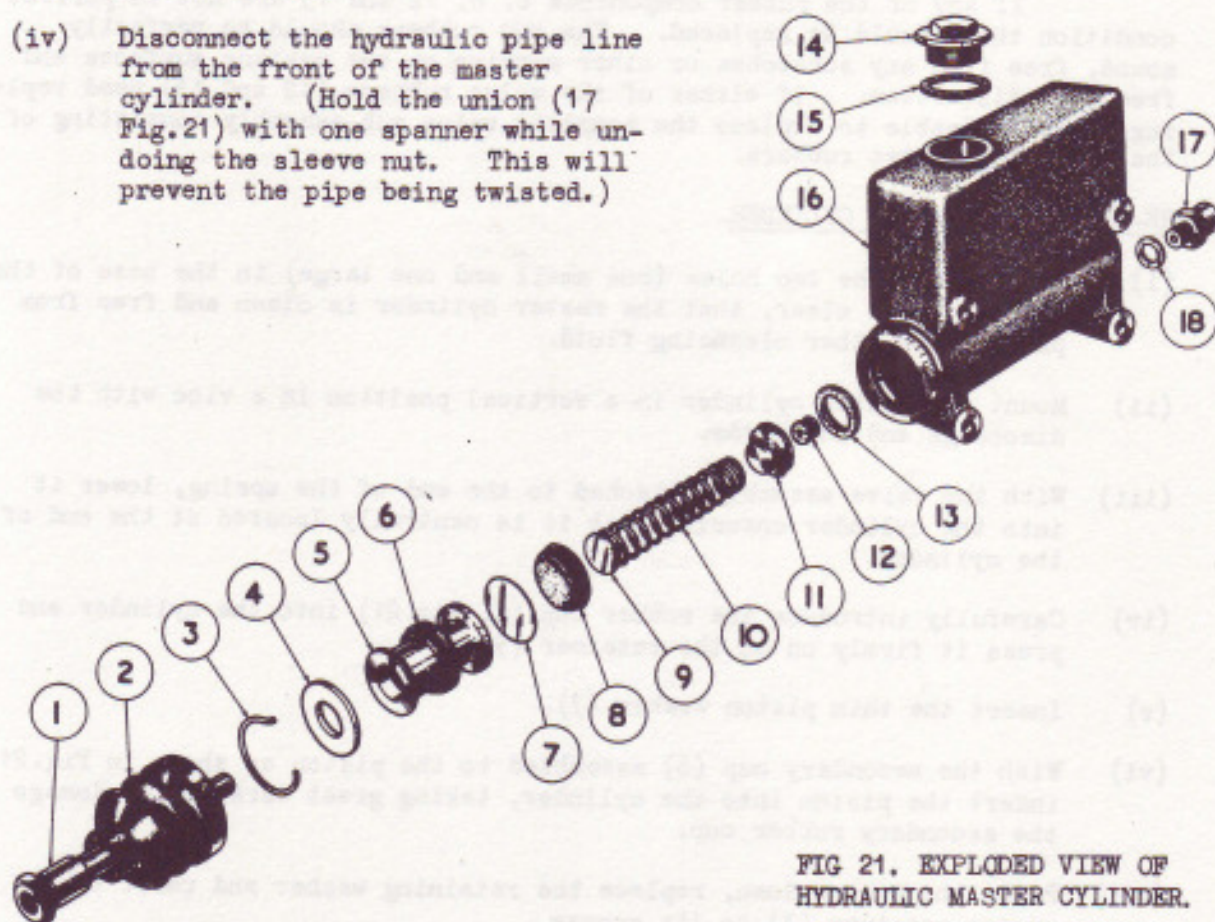

FIG 21. EXPLODED VIEW OF HYDRAULIC MASTER CYLINDER.
No attention is likely to be required by the hydraulic master cylinder other than topping up of the reservoir every 10,000 miles with the Recommended Brake Fluid. Access to the filler plug (14, Fig.21) is obtained by removal of a small panel in the floorboards underneath the driver's seat.
- (iv) Disconnect the hydraulic pipe line from the front of the master cylinder. (Hold the union (17 Fig.21) with one spanner while undoing the sleeve nut. This will prevent the pipe being twisted.)
- (i) The push rod (1, Fig.21) has already been removed as it was attached to the levers when the master cylinder was removed from the bracket.
- (iii) Unscrew the filler plug (14) and drain out the fluid.
- (iv) Extract the piston stop retaining ring (3) from its groove and then remove the piston stop washer (4). This will enable the remaining components to be removed from the cylinder for inspection.
- (iv) Carefully introduce the rubber cup (8, Fig.21) into the cylinder and press it firmly on to the retainer (9).
- (v) Insert the thin piston washer (7).
- (vi) With the secondary cup (6) assembled to the piston as shown in Fig.21 insert the piston into the cylinder, taking great care not to damage the secondary rubber cup.
- (vii) Press the piston down, replace the retaining washer and refit the spring retainer (3) to its groove.
- (viii) Refit the rubber gaiter (2).